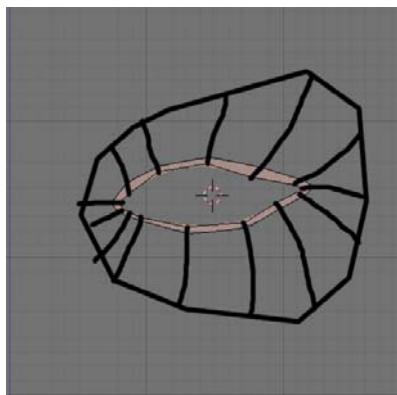

Fig2. Extruding the outer edges.
Step2 This will serve as a basis for modeling the eyes. Select one edge from the outer rim while pressing [Alt+Shift+D] and extrude the selection, scale it and move the vertices until you have a shape like in fig2.